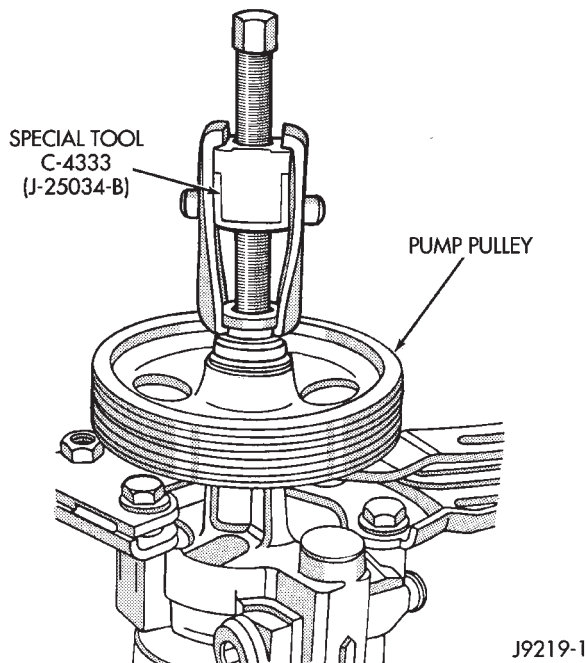

Fig. 4 Removing Power Steering Pump Pulley
(2) Remove the power steering pump pulley from the power steering pump shaft using Puller, Special Tool C-4333 (Fig. 4).